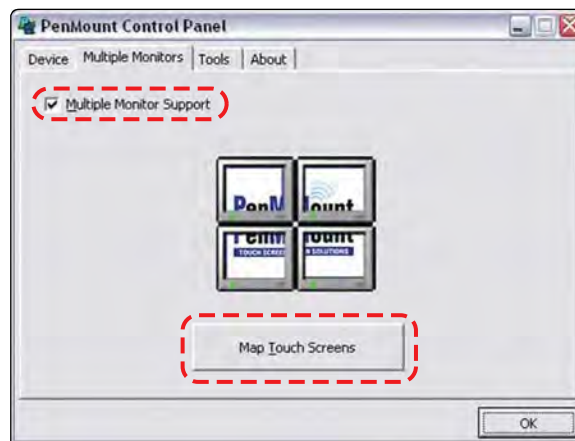

Figure 14-5 Sample Multiple Monitors tab
4. With the **Multiple Monitor Support** box checked, select the **Map Touch Screens** icon (Figure 14-5).